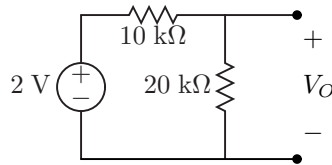

Figure 1: Resistor circuit to build
2. Build the circuit in Figure 1 on your breadboard. Compare the voltage measured at V_O with a hand calculation using the ideal values given in the diagram. What is the error (in percent)? Other than measurement error and error in the voltage source, what might contribute to the deviation from the ideal calculation? *Hint: Measure the resistor values using the DMM.*